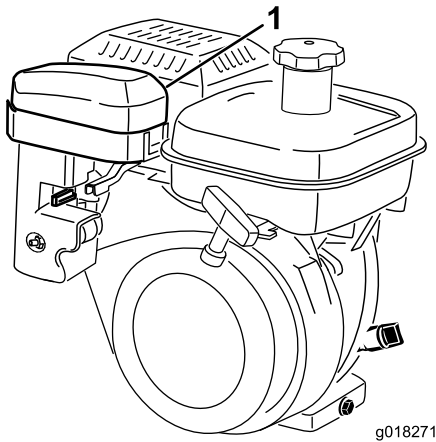
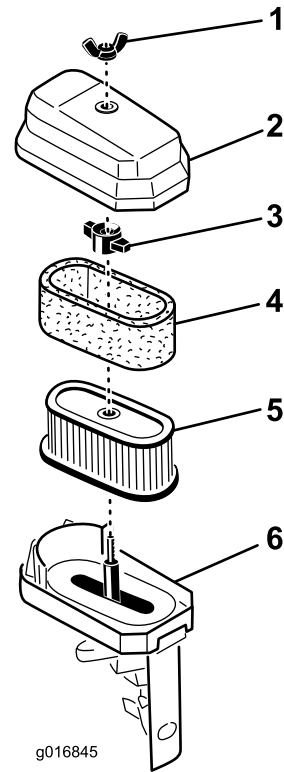

Figure 36
Figure 37
2. Remove the wing nut securing the air-cleaner cover to the air cleaner and remove the cover. Clean the cover thoroughly (Figure 36 and Figure 37).
3. If the foam element is dirty, remove it from the paper element (Figure 37). Clean it thoroughly.